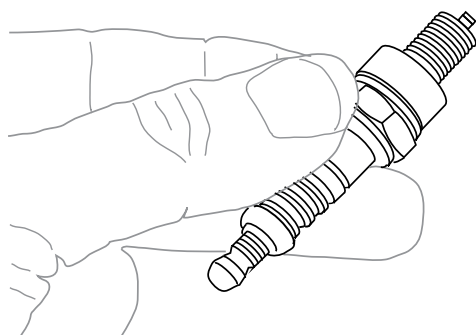

Figure 11
3. When installing a new spark plug, adjust the plug's gap to the specification on the technical specification chart. Do not pry against the electrode or the insulator, the spark plug can be damaged (see Figure 11).